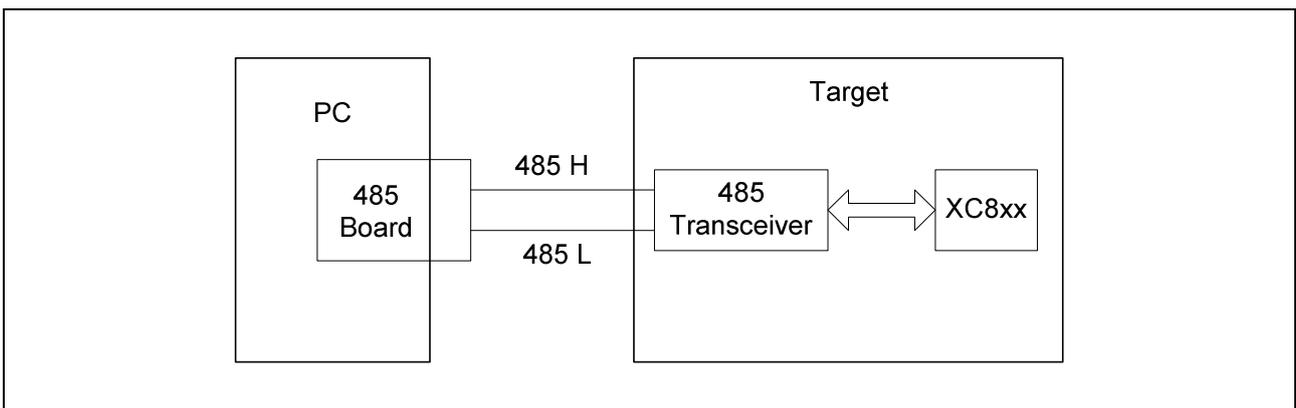

Figure 7 The connection between a PC and a target system with RS485 transceiver for programming.
- Figure 7 shows the connection between a PC and a target system with RS485 transceiver. In this case, the user should check the “Use RS485” under the “Option” menu.